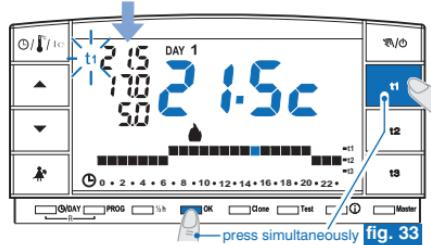

fig. 33
- Press **OK** and the key that corresponds to the selected value (t1 or t2) simultaneously within 8 seconds. Once confirmation is given for unblocking, the temperature digits will stop blinking (example in fig. 33).